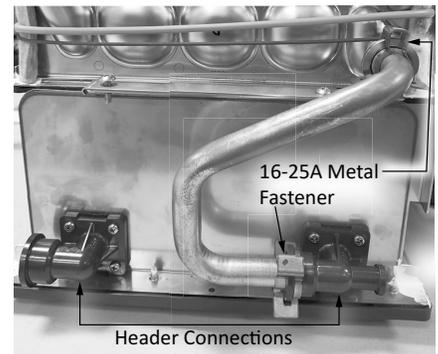

Figure 68: Header Connection Removal
- 24 Remove the 16-25A metal fasteners securing the copper inlet tube (#467) to the heat exchangers. See Figure 68. If you are replacing only the inlet tube, proceed to step 32. Otherwise, proceed to the next step.
31 Reinstall both header connections (# 472 & # 473) to the secondary heat exchanger using the screws removed earlier. Inspect the O-rings, if any cuts or nicks are present replace them immediately. See Figure 68 for correct orientation of the fittings.
33 Reconnect the copper pipe (# 467) using the 16-25A metal fastener. Use the provided O-ring. Inspect the O-rings if any cuts or nicks are present replace it immediately. See Figure 68 on page 57.